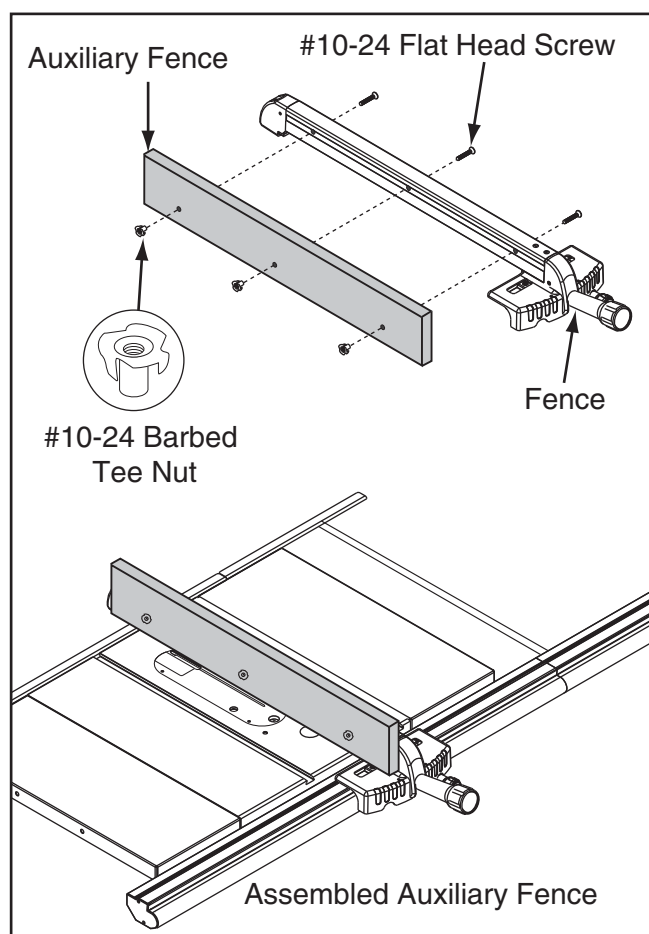

Figure 73. Example of auxiliary fence installed on standard fence.
The fence should be similar to the one in **Figure 73** when installed.
11. Insert a flat head screw through each hole in the fence, then thread them into the tee nuts. The end result should appear similar to **Figure 73** on **Page 48**.